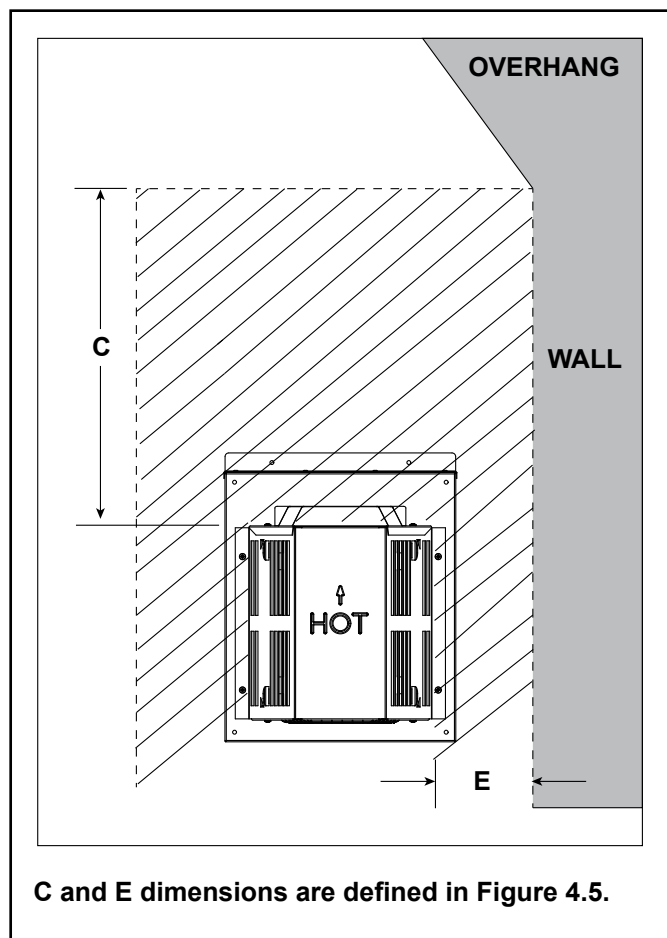

Figure 4.4 Measure Horizontal and Vertical Termination Clearance to Trapezoid Portion of Cap
- Measure horizontal and vertical termination cap clearances as noted in Figure 4.3 and Figure 4.4.